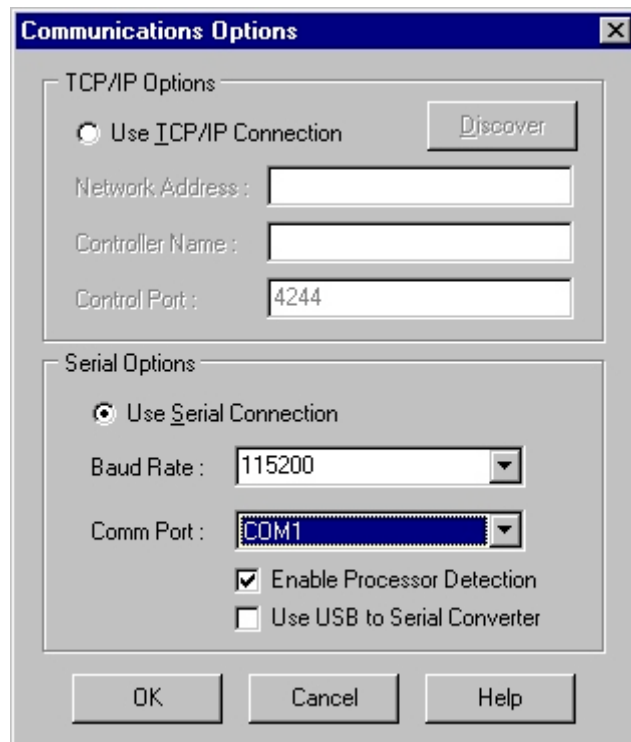

Figure 2-2. Communications Options Window.
3. On the Communications Options window (Figure 2-2), in the Comm Port field, select the COM port on the computer that is connected to the autosampler. Press the OK button.